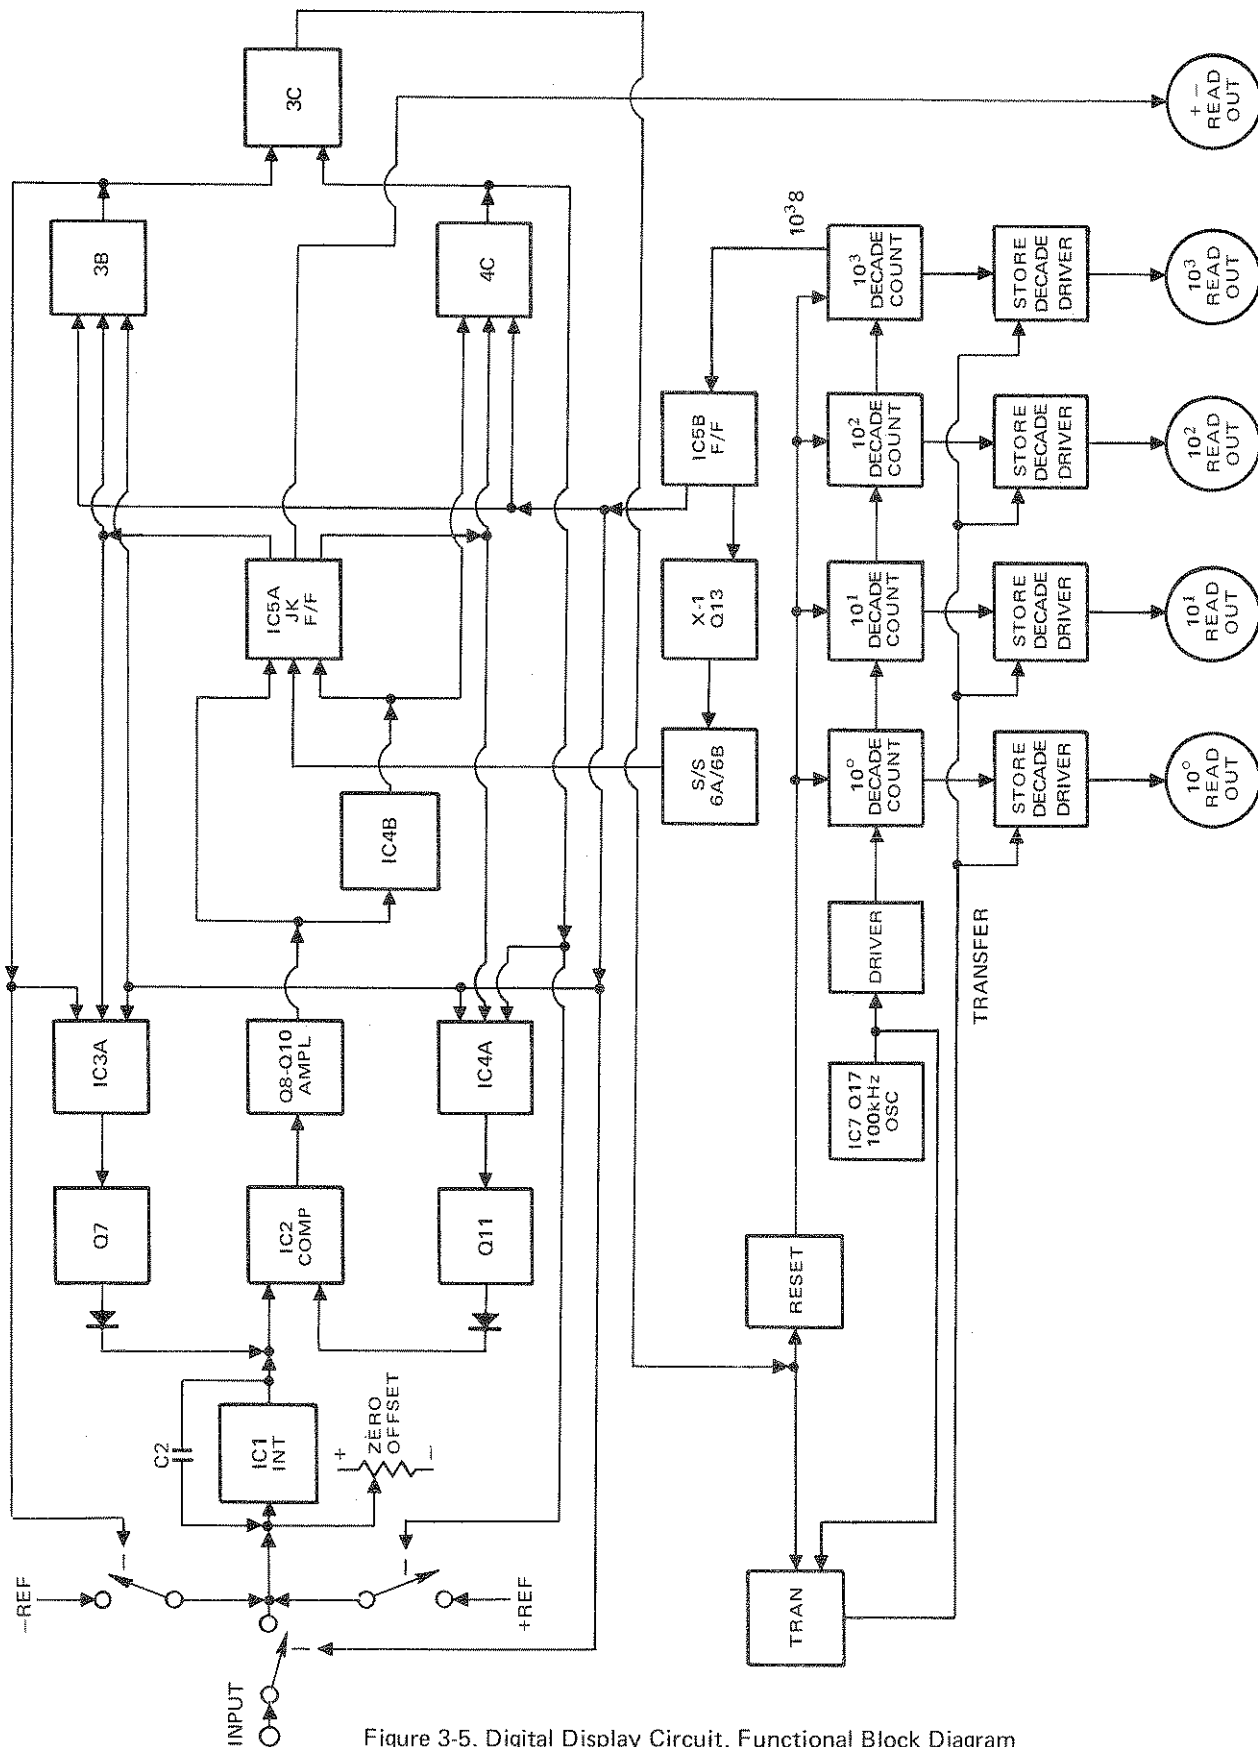

Figure 3-5. Digital Display Circuit, Functional Block Diagram
3.2.3 Digital Display Circuits (Figure 3-5 and 3-6)